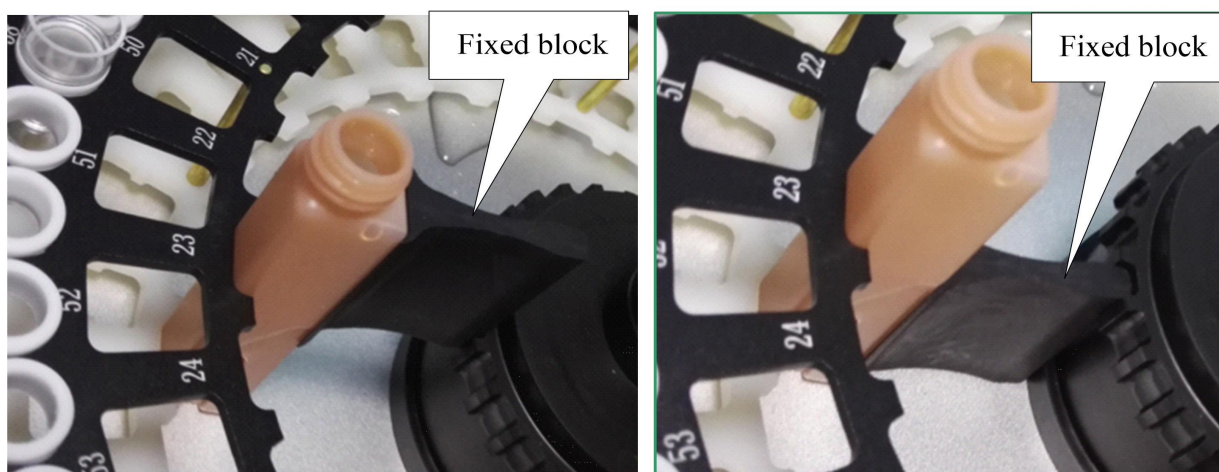

Figure 10-56 Fixed block
- (c) 20mL reagent bottle placed in the reagent inner ring: The bottle near the reagent outer ring, and need to be fixed (Fix the block in the box) as shown in figure 10-56.